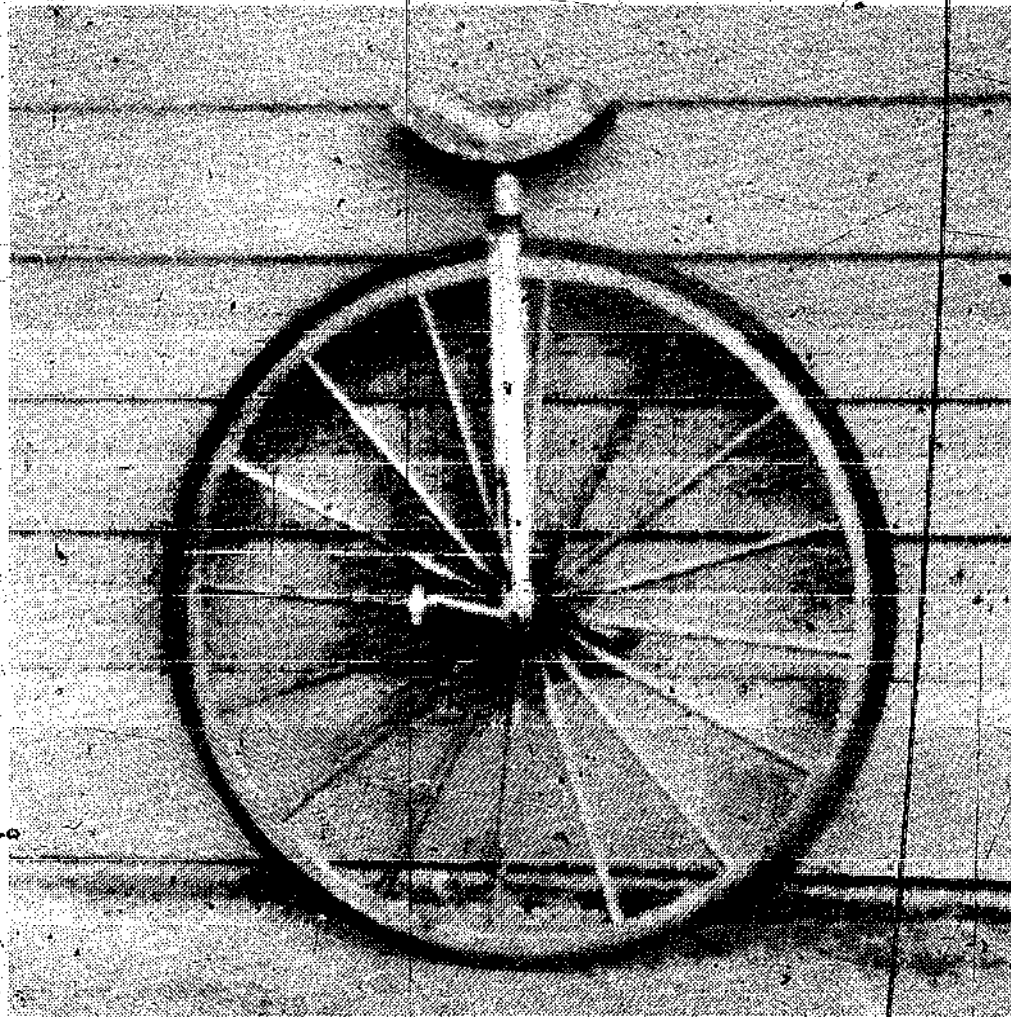

Fig. 15-22. A big-wheel unicycle constructed from a buggy wheel.
**Big-Wheel Unicycles.** The big-wheel unicycle shown in Fig. 15-22 was constructed by Bernard Crandell. It has a 44-inch, 46-inch with rubber tire, wooden buggy wheel. The wheel was made of oak by the *Schrock Buggy Works* in Millersburg, Ohio.